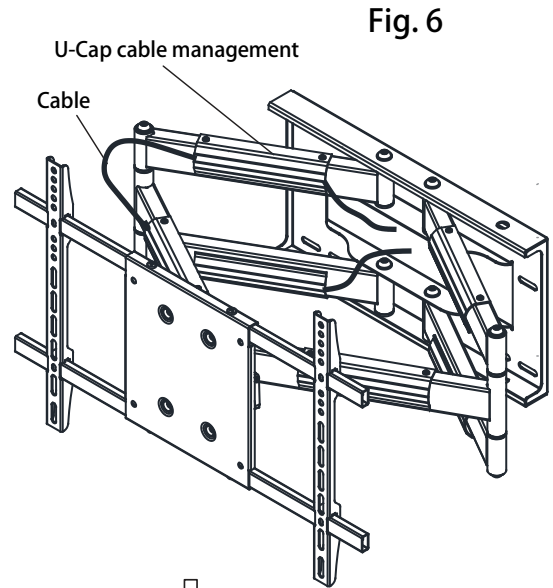

Fig. 6
Step 4 - Using cable management (Fig. 6)